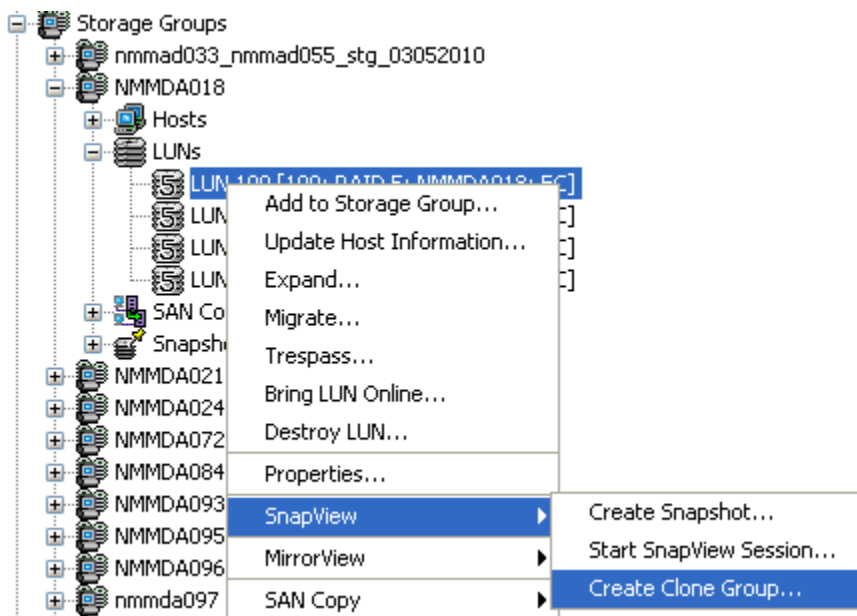

Figure 13 – Clone Configuration
5. Right click on the source LUN and select “Create Clone Group”, as shown in Figure 13.